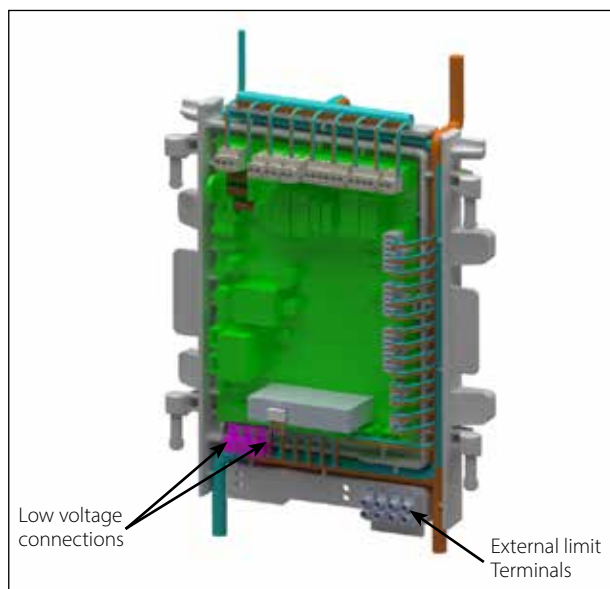

Fig. 32 - Low Voltage Connections
The low voltage terminals are located at the bottom of the CTRLMax control module. The line voltage terminals are located in the lower left corner as shown in Fig. 32 on the right.
1. Connect the DHW aquastat or temperature sensor wires to low voltage terminals X4-1&2 located at the bottom of the CTRLMax control module as shown in **Fig. 32**.
3. Connect the external limit wires to the Manual Reset Limit or Auto Reset Limit low voltage terminals located on the lower right corner of the CTRLMax control module housing as shown in *Fig. 32*.
1. Connect the system temperature sensor wires to low voltage terminals X5-3&4 located at the bottom of the CTRLMax control module as shown in *Fig. 32*.